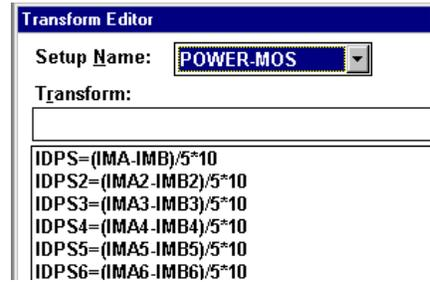

Figure 13. I/CV transform editor
The transform editor shown in Figure 13 includes the conversion equation of the SMU1 (IMA) and the SMU (IMB) to the current (IDPS) and the equation to convert the current value to the actual output voltage (VD) from the power supply. The drain sweep voltage VD is not a measured value, but a converted value from the current sweep value of SMU5 in the I/CV setting.